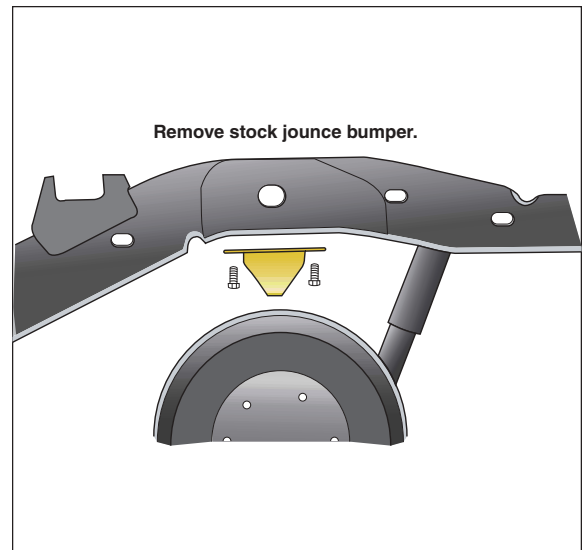

Figure 2
1. Remove the two bolts securing the jounce bumper in place and discard (Figure 2).